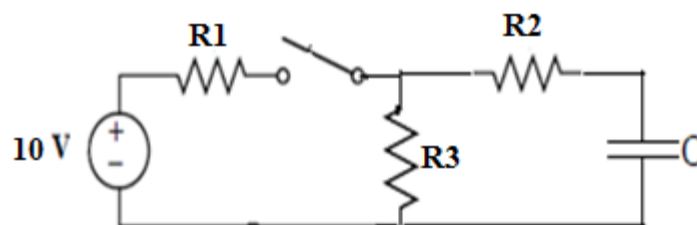

Fig. 11.5 RC Circuit
1. Build the circuit shown in the figure 11.5.